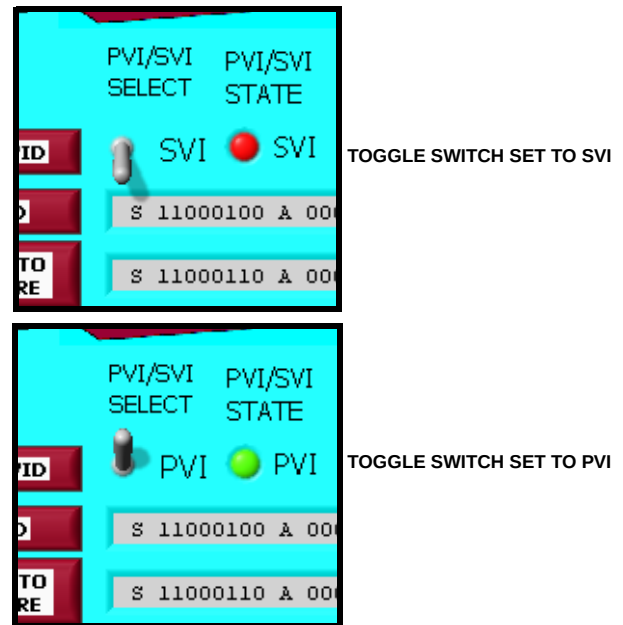

FIGURE 29. SVI/PVI TOGGLE SWITCH
2. If testing the evaluation board in SVI mode is desired, make sure the SVI toggle switch is in the SVI position. Click on the switch to change its position. See Figure 29.